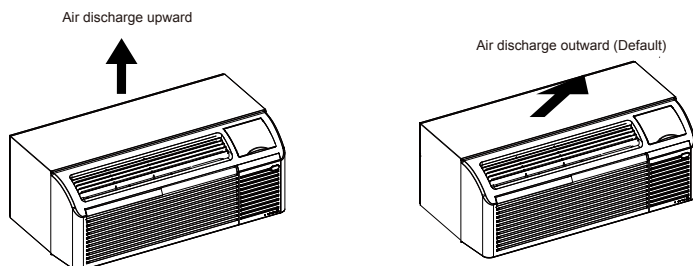

Fig.19–Adjusting Louvers
- 3.Turn louver insert and rotate 180°.See Fig.19.